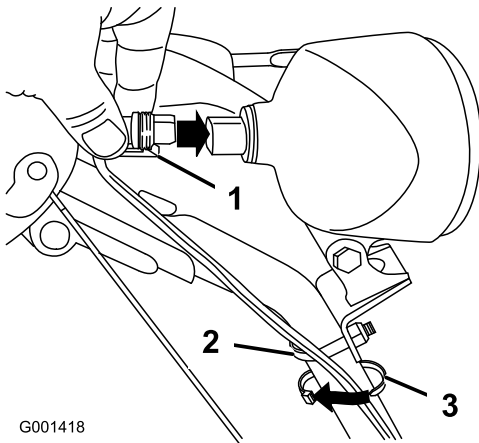

Figure 17
- Insert the wire connector on the loose end of the wire straight into the back of the headlight until it is securely in place (Figure 17).
Note: Ensure that the plastic clip on the wire connector is on the bottom (Figure 17).
- Secure a cable tie (from the loose parts bag) around the wire and the handle about an inch (2.5 cm) below the U-bolt (Figure 17).